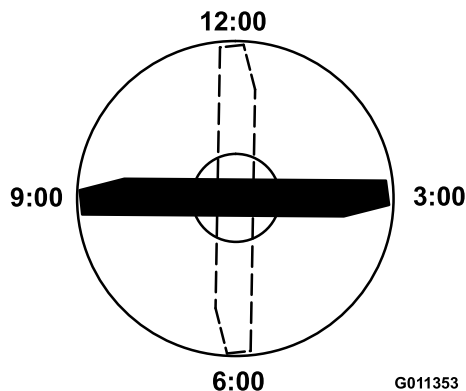

Figure 12
- Position the cutting edge of the marked end of the blade at 12 o'clock (straight ahead in the direction of mowing) (Figure 12) and measure height from table to cutting edge of blade.
- Rotate the marked end of the blade to the 3 and 9 o'clock positions (Figure 12) and measure the heights.